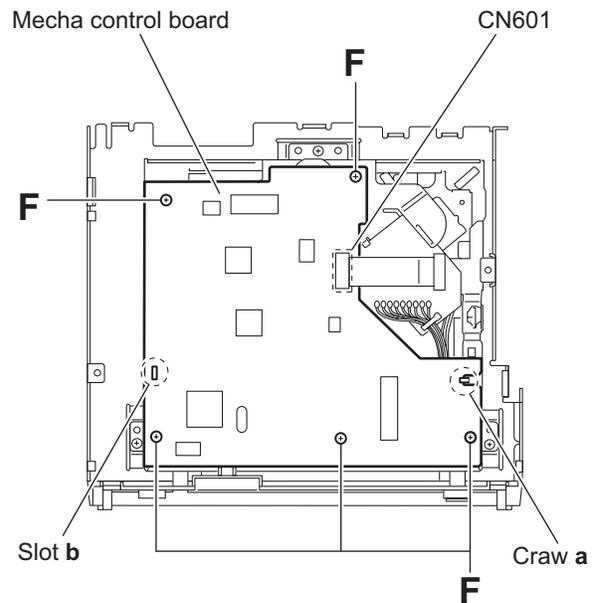

Fig.9
3.1.5 Removing the mecha control board (See Fig.9)